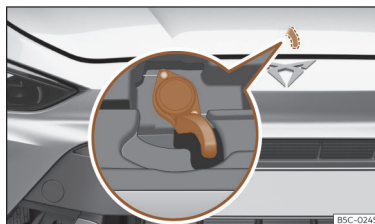

Fig. 223 Lever under the bonnet.
- To lift the bonnet, press towards the left on the lever located under the bonnet, in the centre >>> **Fig. 223 ②**. The fastening hooks are unlocked.